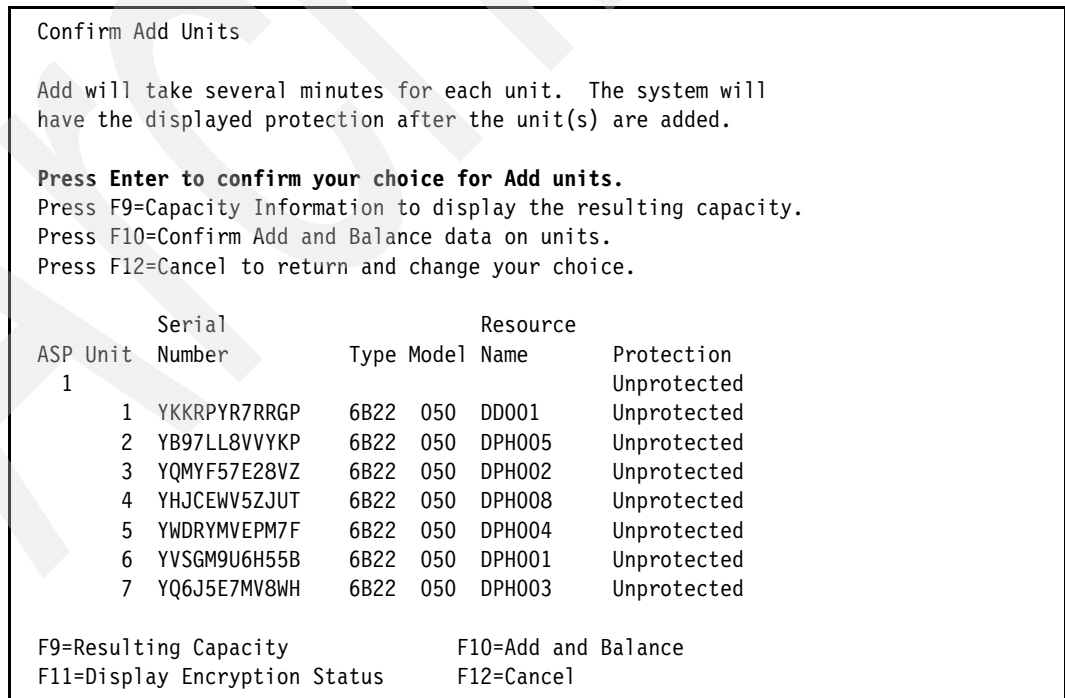

Figure 6-83 IBM i DST Confirm Add Units panel
22. We press Enter at the Confirm Add Units panel, as shown in Figure 6-83.